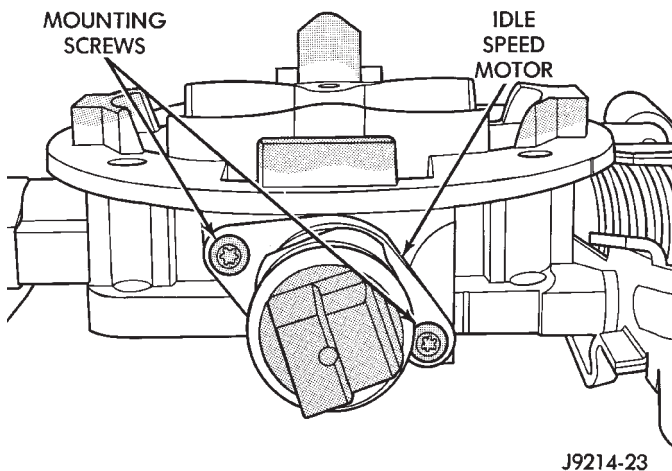

Fig. 42 Mounting Bolts (Screws)—IAC Motor—3.9/5.2/5.9L Engines
The IAC motor is located on the back of the throttle body (Fig. 42).
- (1) Remove air duct at throttle body.
- (2) Disconnect electrical connector from IAC motor.
- (3) Remove two mounting bolts (screws) (Fig. 42).